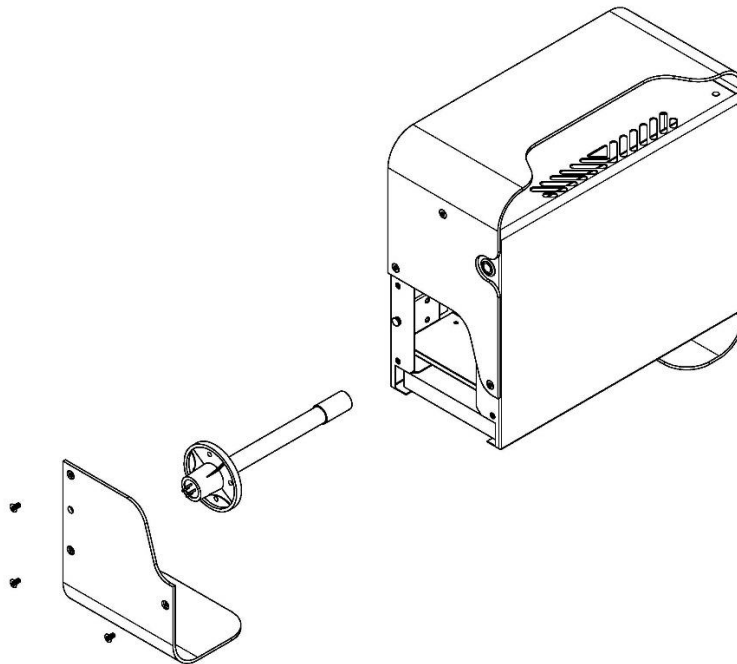
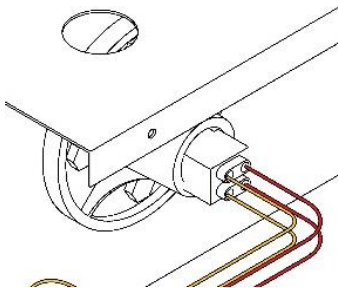
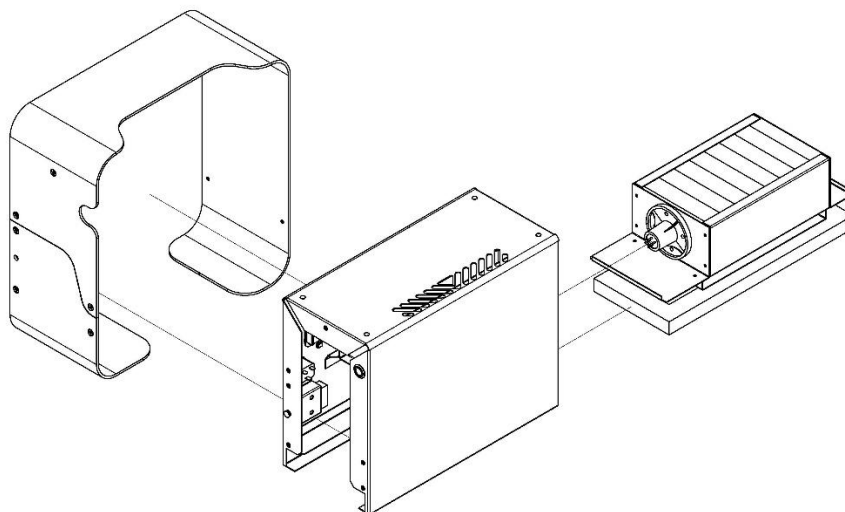

Figure 7
Figure 8
Figure 11
- 2.) Using a torx (star) bit screwdriver, remove the (3) screws attaching filter door to the side of the unit. See Figure 7.
- 3.) Disconnect lamp plug from lamp. See Figures 8 and 9 below.
- 4.) The lamp is attached to the catalyst panel with (4) 10-16 Self-Drilling screws. Remove the screws using a 5/16" socket wrench.
- 5.) Remove the lamp by alternating a quarter turn clockwise and a quarter turn counterclockwise as it is pulled out. This will prevent the lamp from becoming bound up in the catalyst media. See Figure 7.
- 7.) Replace lamps by alternating a quarter turn clockwise and a quarter turn counterclockwise as it is pushed in. This will prevent the lamp from becoming bound up in the catalyst media. See Figure 7.
- 8.) Reinsert (4) screws per lamp using a 5/16" socket wrench.
- 9.) Reconnect lamp plugs. See Figures 8 and 9.
- 10.) Reattach filter door to the side of the unit using (3) screws. See Figure 7.
- 3.) Slide the outer handle off as shown in Figure 11. Slide filter out of unit as shown in Figure 11.
- 4.) Disconnect Lamp plug as shown in Figure 8 and 9. Slide out Catalyst Panel as shown in Figure 11.
- 11.) Reinstall catalyst panel and pre-filter. Plug ballast into lamp. See Figures 8, 9, and 11
3.) Slide the outer handle off as shown in Figure 11. Slide filter out of unit as shown in Figure 11.
- 4.) Disconnect Lamp plug as shown in Figure 8 and 9. Slide out catalyst panel as shown in Figure 11.
11.) Reinstall catalyst panel and pre-filter. Plug ballast into lamp. See Figures 8, 9, and 11
4.) Disconnect Lamp plug as shown in Figure 8 and 9. Slide out catalyst panel as shown in Figure 11.